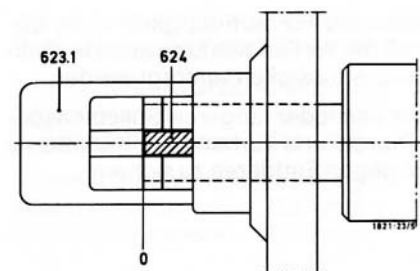

Figure 21 – Rotor position, pump operation normally
If the end of the pin (624) in line with the pump side marking, this means the balance device (601 and 602) is so worn that it must be replaced (see figs. 21 and 22).